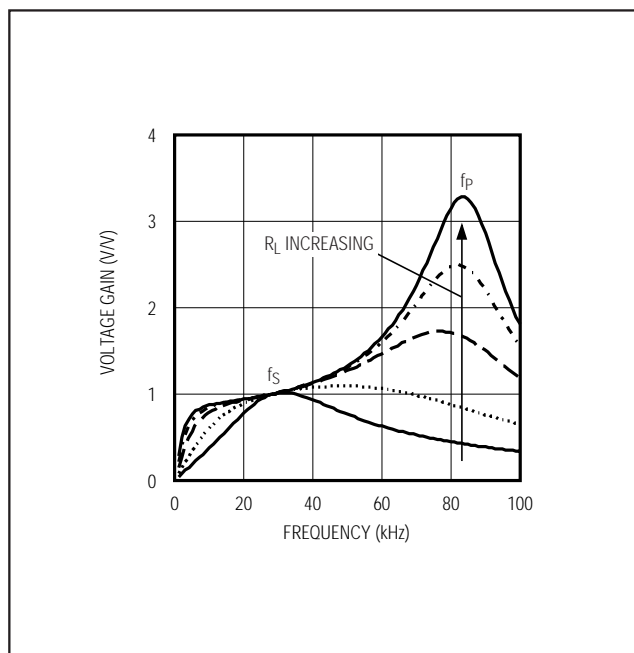

Figure 5. Frequency Response of the Resonant Tank
Figure 5 shows the frequency response of the resonant tank's voltage gain under different load conditions. The primary series capacitor is 1 $\mu$ F, the secondary parallel capacitor is 15pF, the transformer turns ratio is 1:93, and the secondary leakage inductance is 260mH. Notice that there are two peaks,  $f_S$  and  $f_P$ , in the frequency response. The first peak,  $f_S$ , is the series resonant peak determined by the secondary leakage inductance (L) and the series capacitor reflected to the secondary (C'S):